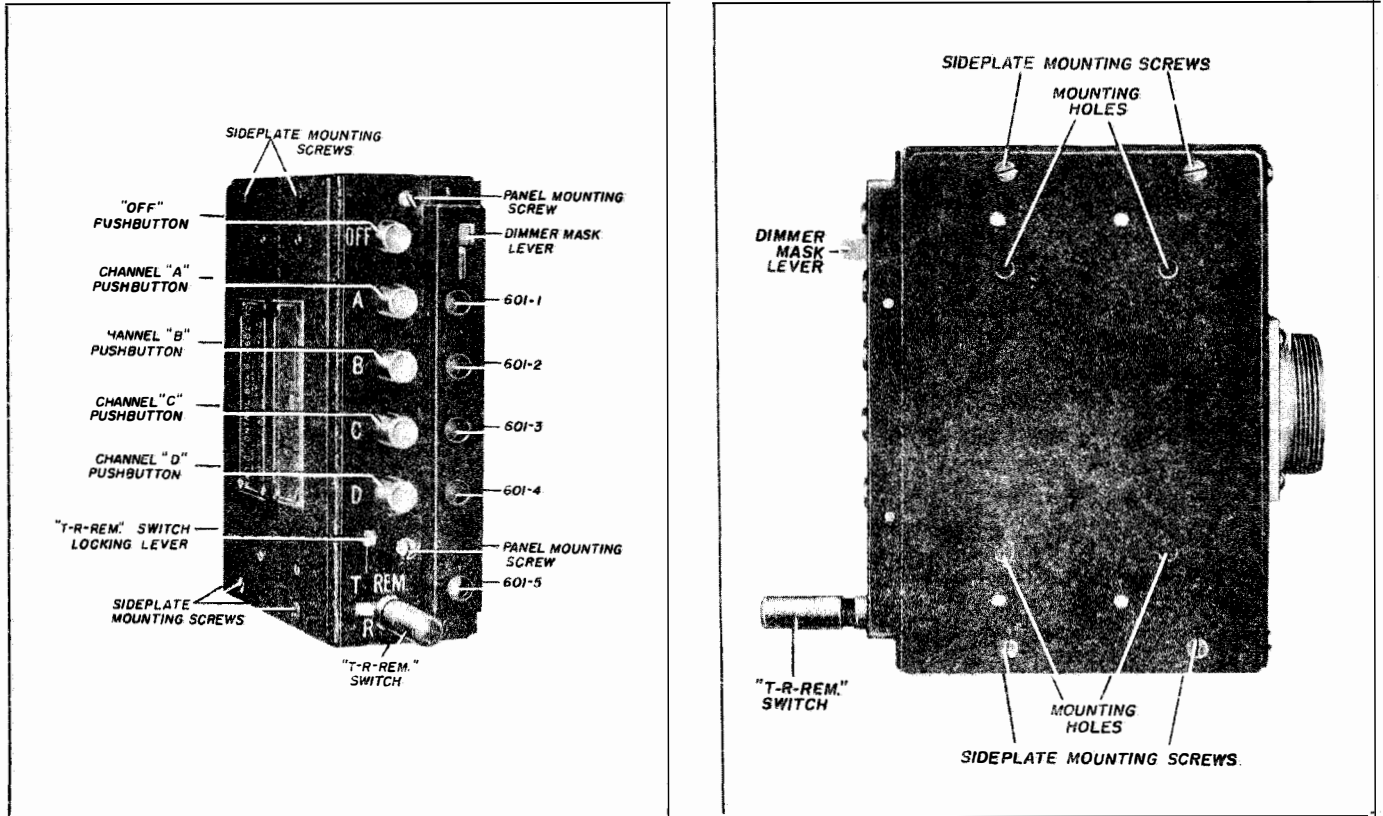

Figure 2-6. Radio Control Box BC-602-B—Front and Side Views
(1) Loosen the four screws in the side plate containing the four countersunk mounting holes and remove the plate.
(2) Fasten a suitable mounting bracket to the side plate. (Use flathead screws and mount them flush with the inside surface of the plate to prevent possible short circuits in some portion of the control circuit wiring.)
(3) Replace the side plate.
(4) Mount the radio control box with the control panel accessible and visible to the pilot. (See figs. 2-6 and 2-7.)